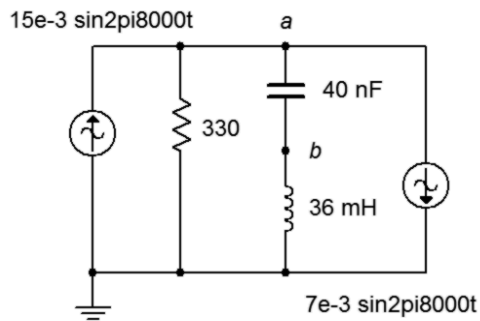

Figure 6.14
27. Use nodal analysis to find the current through the 330Ω resistor in the circuit of Figure 6.14.
28. Given the circuit in Figure 6.14, write the node equations and determine v_b .